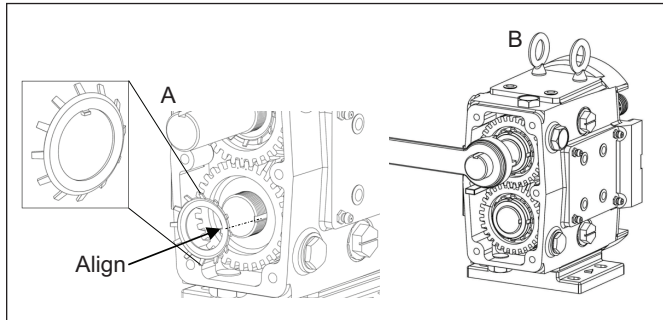

Figure 45. Installing Lock Washer and Lock Nut
- Install the lock washers on the shaft by aligning the tab inside the lock washer with the slot in the shaft (Figure 45, A). Lubricate the threads of the lock nuts and thread them on the shafts. Using a spanner wrench, tighten them to the specified torque in Table 6. Use a wedge (wood or plastic) between the gear teeth to keep the shafts from turning while tightening the lock nuts (Figure 45, B).